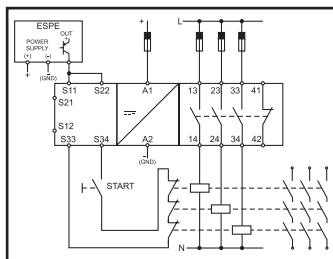

Fig. 5: ESPE: 1 uscita PNP a 1 filo /
- ESPE with one one-wire output (PNP-type or relay-type): connect the output to the S11 terminal; short-circuit the terminals S11 with S22, leaving S12 and S21 not connected (fig. 5, 6, max safety cat. 2 PL: c).
In Fig. 5 and 6 are shown the connections of ESPE with 1 one-wire output: the ESPE output is connected to S11 and S22 is short-circuited to S11. The category of the application can reach up to category 2 according to the EN ISO 13849-1 standards.